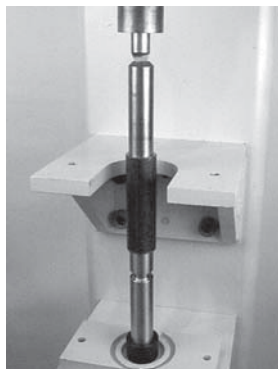

Figure 124
4. Using an arbor press or similar device, press bearing onto pulley shaft (**Figure 124**).